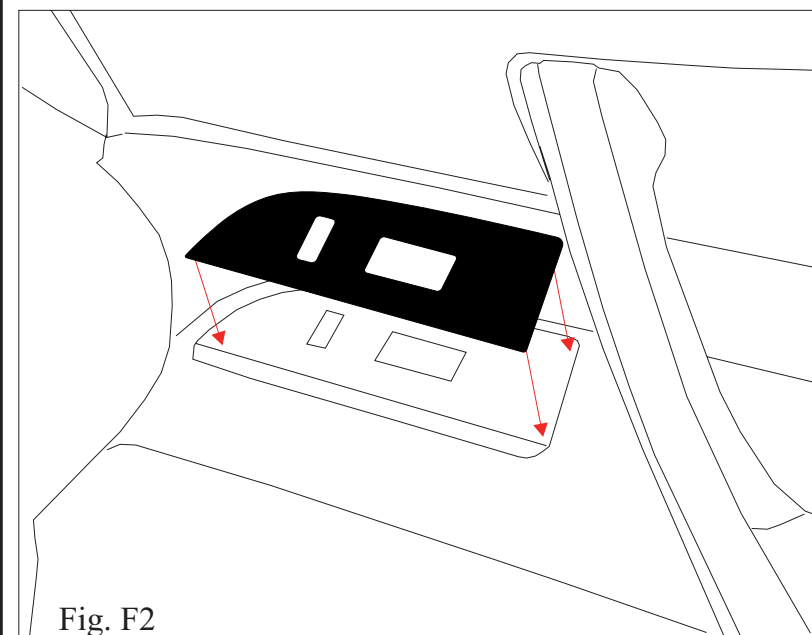

Fig. F2
A. Align part uniformly to edge of factory components. Edge of appliqué should be flush to edge of factory component,  $\pm 1.0\text{mm}$ . (Fig. F2).